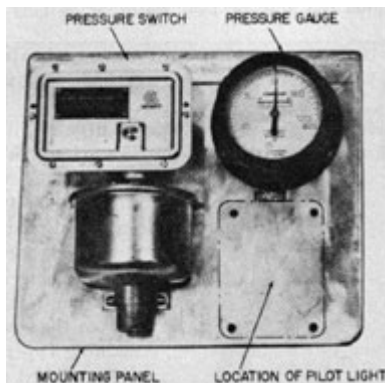

Figure 10-8. Equipment for evaporator pressure control.
**10D6. Pressure controlled switch** (Figure 10-8). The pressure controlled switch is essentially a pressure type contact maker, set to, break the circuit to the electric heater at a pressure of 12 inches of water,
**10D7. Compound indicating pressure gage.** The dial of the compound indicating pressure gage is graduated to indicate zero to 120 inches of water for pressure, and zero to 15 inches of mercury for vacuum. (See Figure 10-8.)